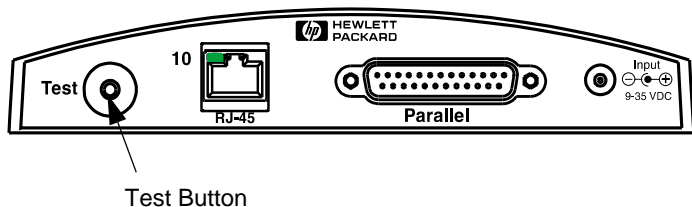

Figure 3-2 Test Button on the back of the 170X
1. Press the Test button on the back of the 170X to generate a configuration page (see Figure 3-2).